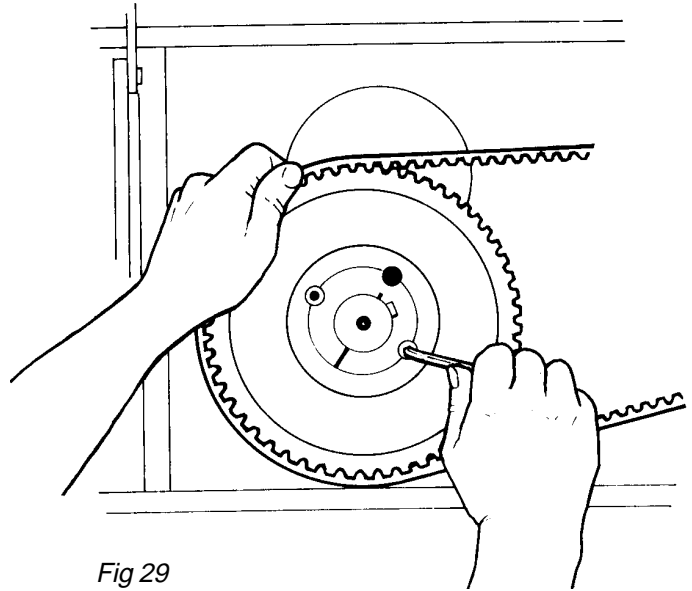

Fig 29
4. Using a socket wrench *Fig 29*, tighten the screws gradually and alternately until all are pulled up very tightly.